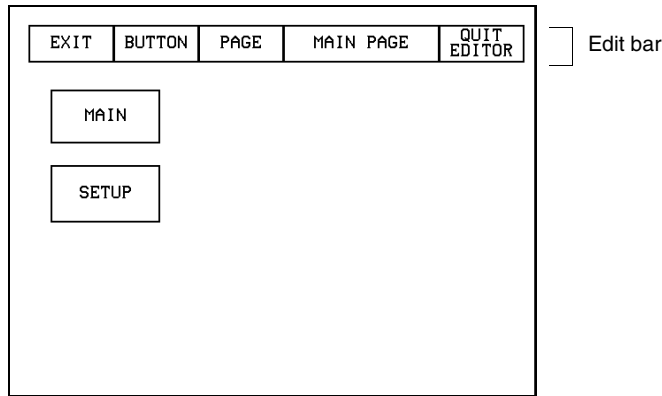

FIG. 13 Main page with Edit bar
7. Press EDIT to open the Edit bar. The BUTTON and PAGE options, in the Edit bar, (FIG. 13) are used to design and modify button and page settings.